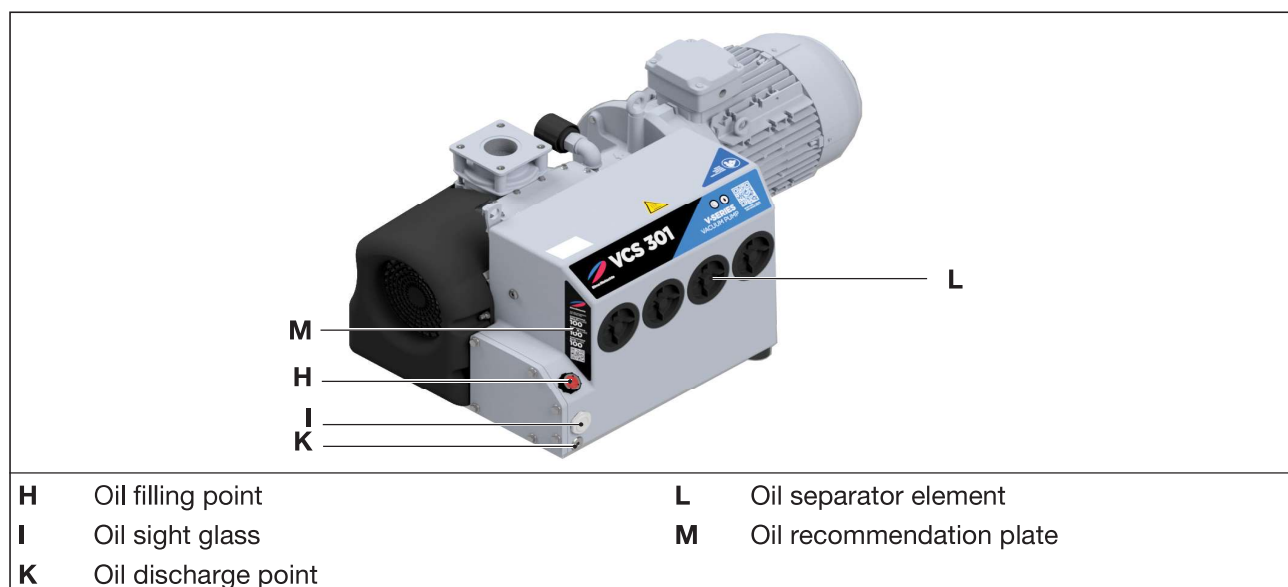

Fig. 7 Oil change and de-oiling
As operating agent, we recommend **Elmo Rietschle** oils, see oil recommendation plate (Fig. 7/M) as well as Tab. 3 on page 32:
- b) Open the cap of the oil filling point (Fig. 7/H) and refill oil until it reaches the upper edge of the sight glass (Fig. 7/I).
- b) Open the catch of the oil filling point (Fig. 7/H), open the oil discharge point (Fig. 7/K) and completely discharge the used oil.
- c) Close the oil discharge point (Fig. 7/K) and fill in new oil through the oil filling point (Fig. 7/H).
- d) Check the oil level in the sight glasses (Fig. 7/I).
- b) Unscrew oil separator elements (Fig. 7/L) with a ring spanner (width across flats 19 mm) counter-clockwise.